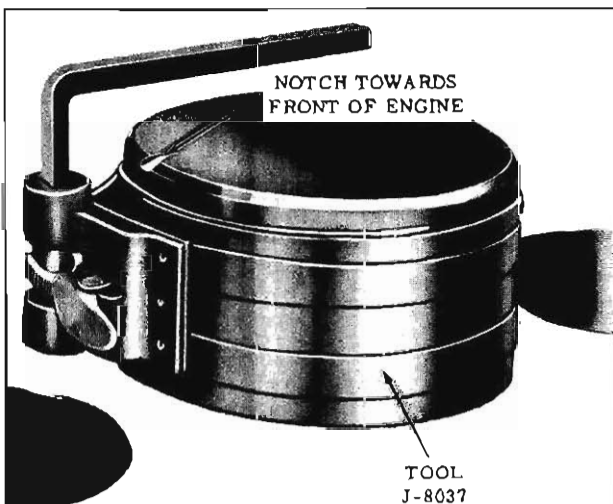

Fig. 3-433 Piston Ring Compressor
2. Apply SAE 10W30 oil to rings and piston, then install piston ring compressing tool on piston. (Fig. 3-433)